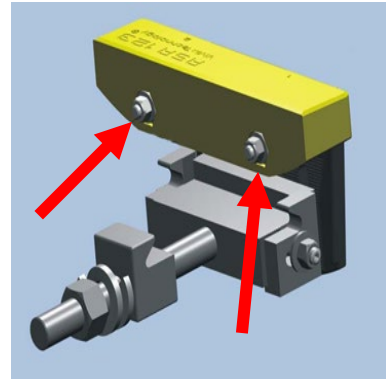

Figure 3 - M10 Nuts
a) Figure 3 Allen Screws to 25Nm